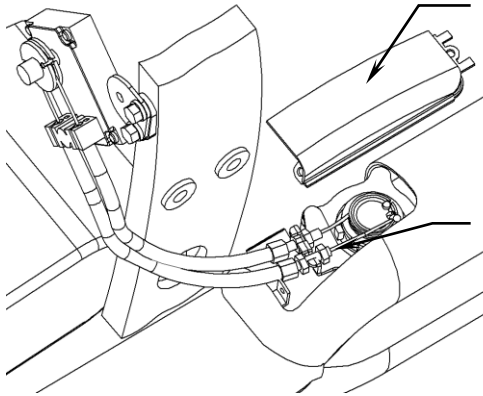
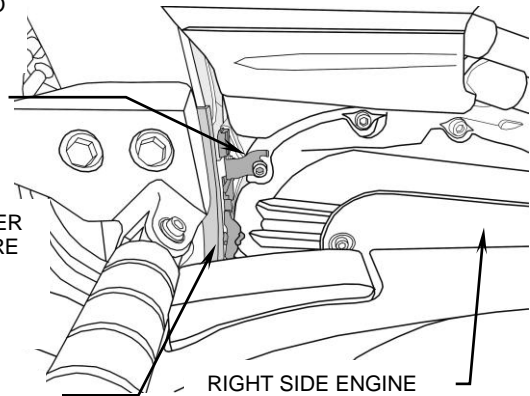

FIGURE 1
FIGURE 2
2. Perform the following to remove the stock exhaust system. **NOTE:** You must disconnect and remove the power valve cables as well as unplug the oxygen sensor connector first, then remove the exhaust system and mounting bracket, see **Figure 1** for power valve. Loosening the jam nuts on each cable, and disengaging the cable barrels from the power valve pulley disconnect the power valve cables. The power valve, and cables are not needed with the new Cobra exhaust system, leave the solenoid box under the seat in place without the cables. To disconnect the O2 sensor remove the right rear footpeg and remove the steel plate with hook securing O2 sensor harness behind it, retain plate for later reinstallation. Remove the socket head screw securing the O2 sensor harness and bracket to engine case on the right side of the motorcycle, see **Figure 2**, unplug the stock male and female connectors, and remove entire exhaust system. Disengage the female O2 connector from the small bracket, (which was unbolted from engine case), to gain extra harness length, upon reassembly of new Cobra exhaust, the small bracket, (from engine case), will not be reused, **unless** a closed loop Fi2000® (92-1773CL /92-1773CL-50), is to be used, then please refer to those specific instructions. Next remove the oxygen sensor from the stock exhaust and retain for later reinstallation.